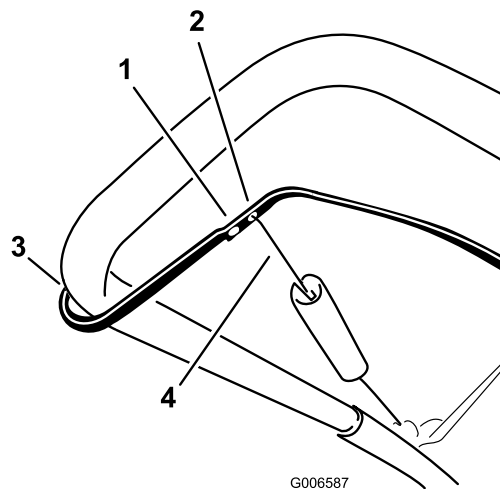

Figure 23
**Note:** After extended use, the drive belt may wear and lose its proper belt tension. If the drive belt slips (continuously squeals) under a heavy load, disconnect the spring from the adjuster link and move the upper end of the spring to the hole that is further from the pivot point in the control bar (Figure 23). Then connect the spring to the adjuster link and adjust the control cable.